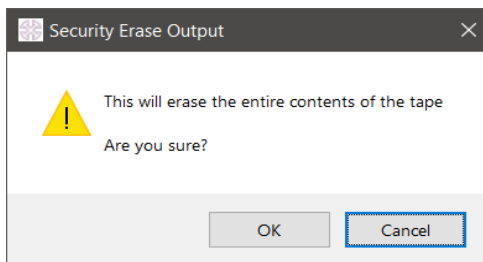

Figure 3-12 Security Erase Output warning
1. Click on the **Security Erase** button. A warning box will open (Figure 3-12 below).